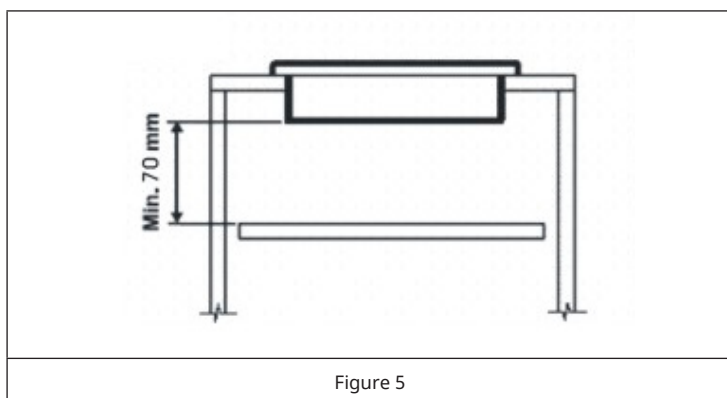

Figure 5
**Important note:** Under the hob it is necessary to always apply a panel of separation in wood, positioned to a least distance of 70 mm by the bottom of the same, which has to easily be removable to allow possible operations of maintenance (see figure 5).
- The burners can be equipped with Flame Safety Device (FSD = Thermocouple, see figure 5).